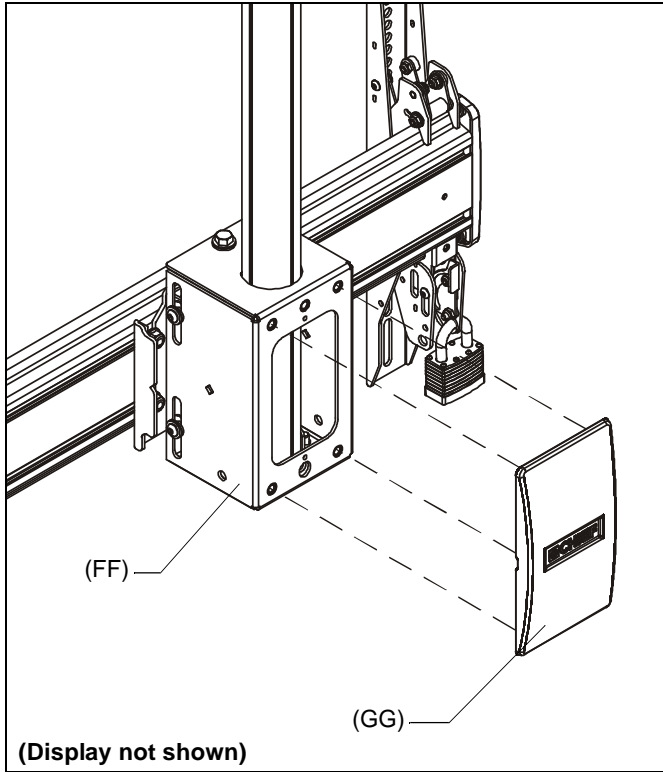

Figure 18
2. Install back cover (GG) into four holes on back of both array heads (FF). (See Figure 18)